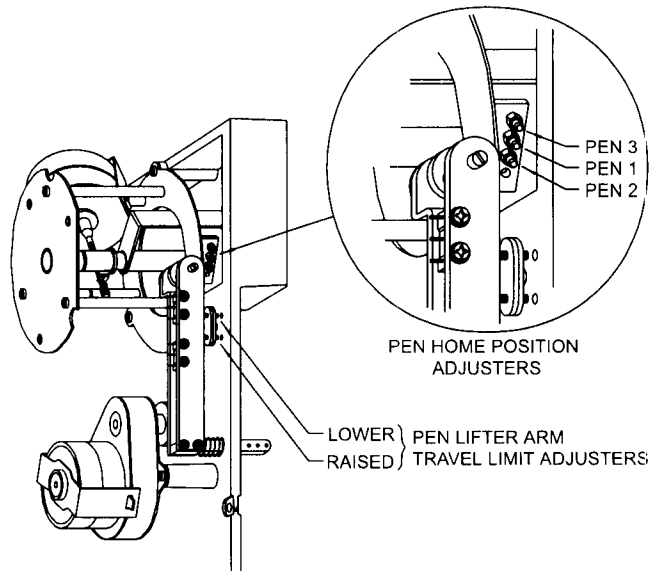

Figure 6.2 : Pen home position adjustment nuts
1. With an M1.6 nut-spinner or box-spanner turn the relevant adjuster clockwise to move the home position towards the chart centre, counter-clockwise to take it towards the edge. Figure 6.2 identifies the three adjustment nuts.